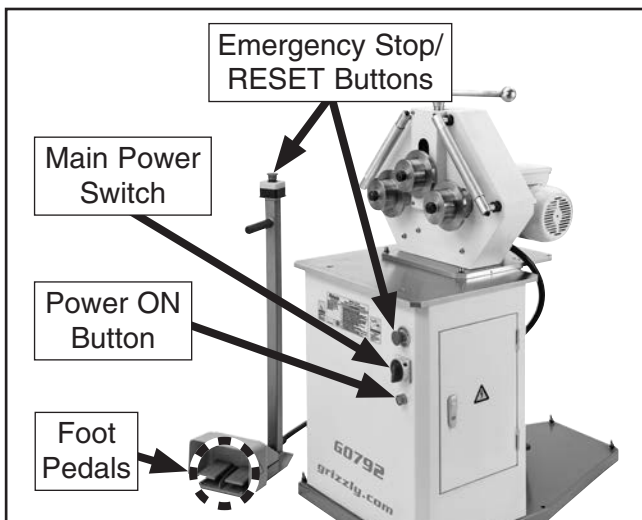

Figure 11. Location of test run controls.
2. Push both Emergency Stop/RESET buttons (see **Figure 11**).
5. Rotate main power switch (**Figure 11**) to ON position.
6. Push POWER ON button (**Figure 11**). Green light on button should illuminate.
7. Step on one foot pedal (**Figure 11**) to turn motor **ON**. Release foot pedal to turn motor **OFF**. A correctly operating machine runs smoothly with little or no vibration or rubbing noises.